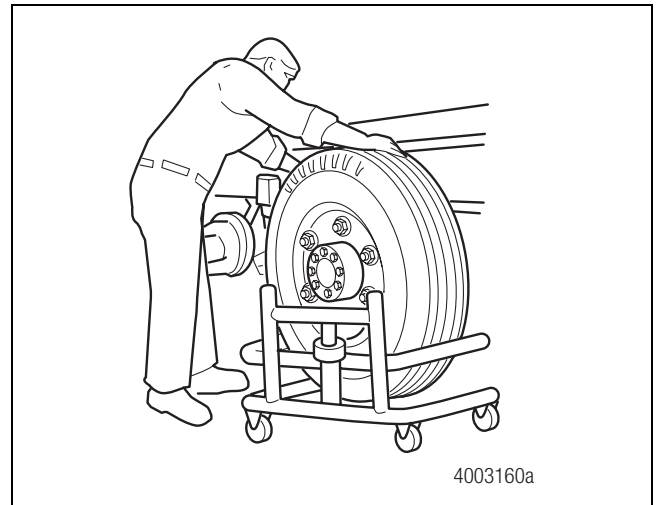

Figure 4.22
3. Remove the tire and wheel assembly. Figure 4.22.